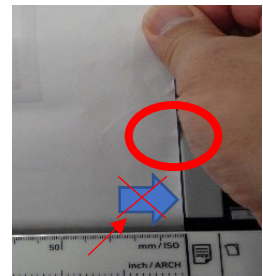

Fig. 3 Right edge position
2. After selecting your Copy or Scanning settings on the control panel, set the original document on top of the printer cover, but do not insert it into the scanner yet. Please ensure the orientation of the original document is the scanned-side facing out. Gently align the right edge of the original document to the edge guide. Leave a very small amount of space between the edge guide and your document edge. Do not push the edge guide away from the raised line (Fig. 3).
- If the original document is aligned too closely to the edge guides, the document may be misaligned and the scanner may not recognize the original. Please align the original with the edge guide so that the original is just touching the edge guide. (see Fig. 3)